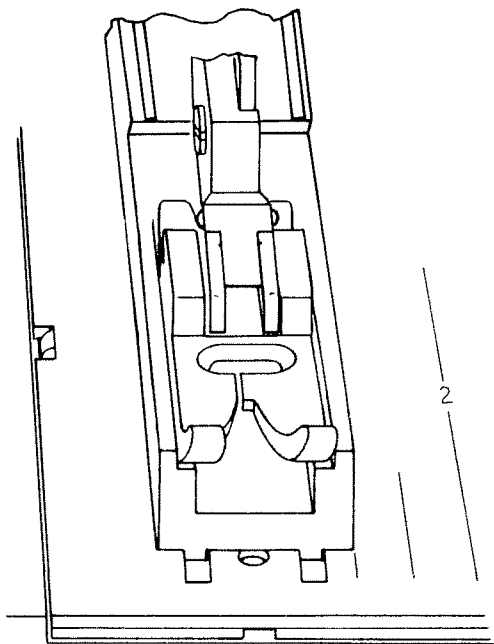

Fig. 6
- Insert sewing foot gauge No. 631114 690-39 from behind under the zigzag foot and into the cutouts of the needle plate (Fig. 6).